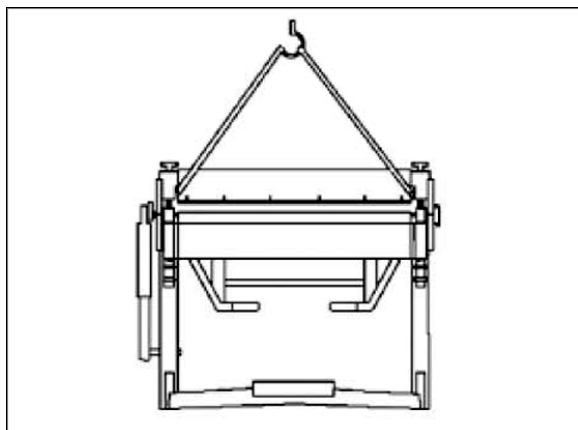

Figure 3
1. Remove any straps or screws securing the brake, and raise machine using properly rated lifting equipment. See Figure 3 for lifting strap placement.